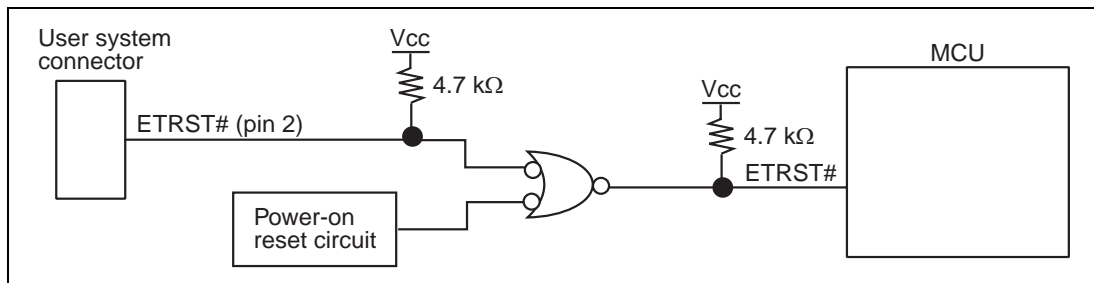

Figure 1.7 Connection of the ETRST# Pin
- Connect the power-on reset circuit signal to the ETRST# pin as shown in figure 1.7. Otherwise, the MCU may not be initialized even if it is supplied with power when the emulator is not connected. Do not supply any other reset signal to the ETRST# pin. If attempted when the emulator is connected, the communication between the emulator and the MCU may be terminated.